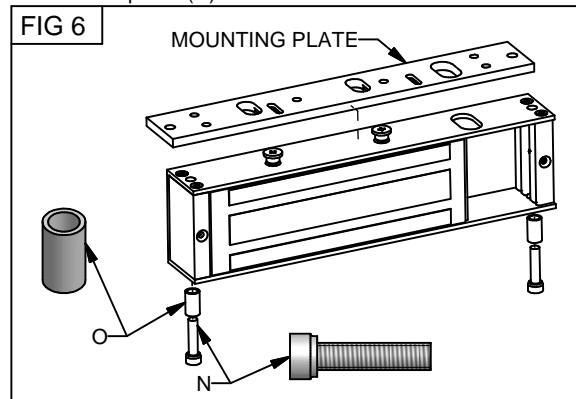

FIG 6
8. Using the Allen key wrench (L) remove the two M6 Allen bolts (N) and metal spacer (O) through the holes at the base of the magnetic lock. Slide the Mounting plate forward and lift up to remove it from the lock (see Fig.6).